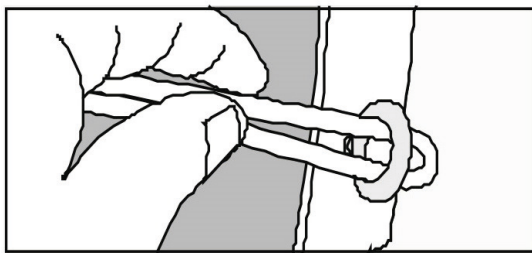
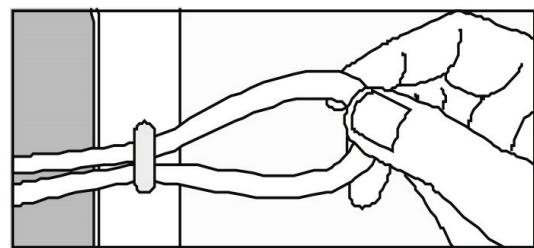

Fig. 1
Fig. 2
1. On the underside of the plate there is a loop built on each side. Press the end of the training band together and push it through the loop (see Fig. 1 and Fig. 2).